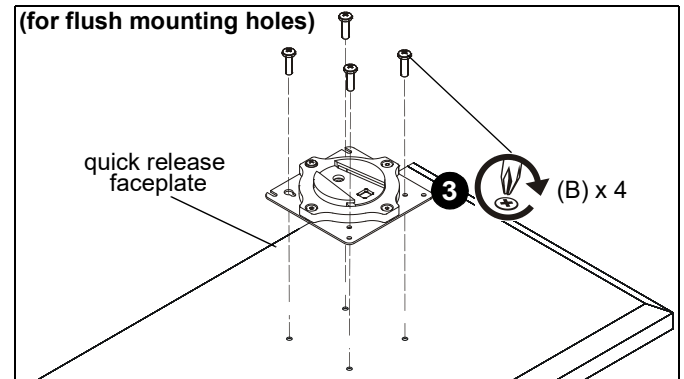

Figure 11
- Using Phillips screwdriver, carefully install four M4x10mm screws (B) through corresponding holes on faceplate and into the mounting holes on the display. (See Figure 11)